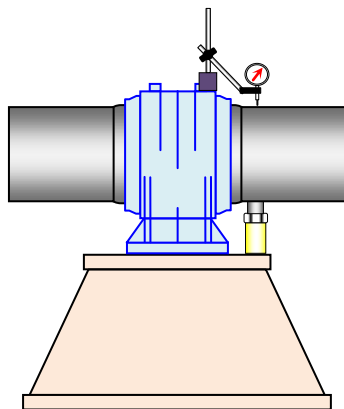

**Figure 13: Girder for placing the hydraulic jacks below cranks**
- Girder (see figure 13) provided for crankweb lifting during lower half main bearing shell inspection or replacement.